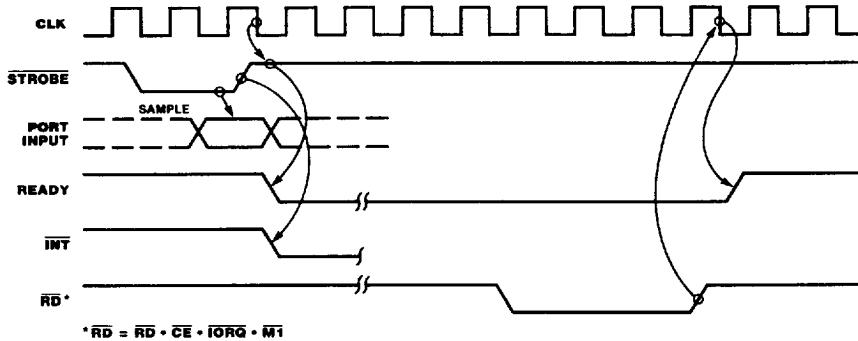

Figure 15. Mode 1 Input Timing
**Input Mode (Mode 1).** When  $\overline{\text{STROBE}}$  goes from Low to High, data is latched into the selected port input register (Figure 15). While  $\overline{\text{STROBE}}$  is Low, the input data latches are transparent. The next rising edge of  $\overline{\text{STROBE}}$  activates  $\overline{\text{INT}}$ , if Interrupt Enable is set and this is the highest-priority requesting device. The following falling edge of  $\text{CLK}$  resets Ready to an inactive state, indicating that the input register is full and cannot accept any more data until the CPU completes a read. When a read is complete, the positive edge of  $\text{RD}$  sets Ready at the next Low-going transition of  $\text{CLK}$ . At this time new data can be loaded into the PIO.